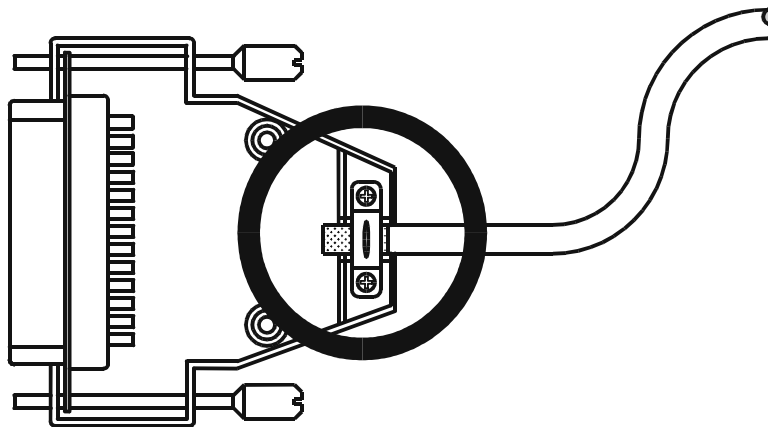

Fig. 1: Shielding of SUB-D connectors in conformity with the EMC standards.
- Only use metallised connectors, e.g. SUB-D with metallised housing. Please take care of direct connection of the strain relief with the housing here as well (refer to Fig. 1).